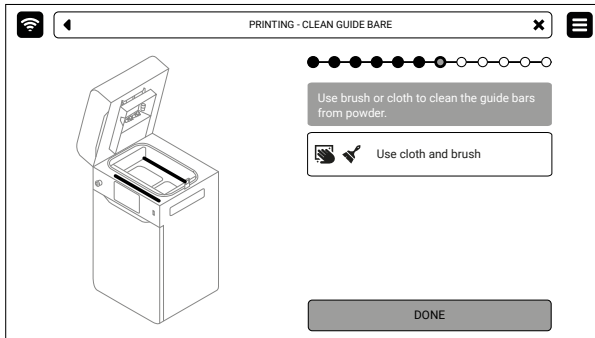

Fig. 6.10 Clean and lubricate the Recoater guide bars.
- Remove powder from the guide bars. Use a brush or a cotton cloth. Press **DONE** (fig. 6.10).